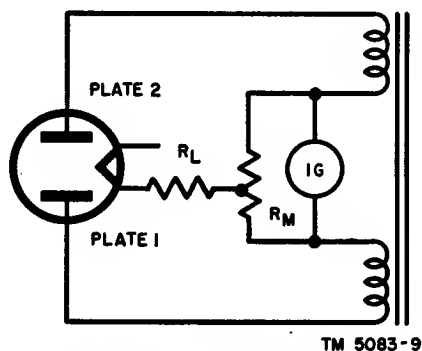

Figure 10. Rectifier diagram.
a. Examine first the simple full-wave rectifier circuit shown in figure 10. The two power transformer secondary windings have their inner ends connected to a d-c milliammeter. A center-tapped resistor R_M is shunted across the milliammeter. The load, resistance R_L , is connected between the center tap of the transformer and the rectifier filament as in any other full-wave rectifier circuit. When rectifier plate 2 is positive, electron flow is through the upper half of R_M , and the meter tends to deflect in one direction. When plate 1 is positive, electron flow is through the lower half of R_M , and the meter tends to